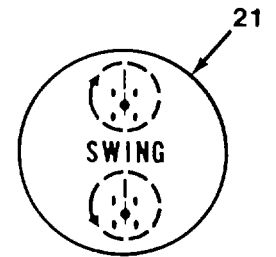

Figure 4-6. *Swing Lever*
21. **Swing Lever** controls rotation of upperstructure: push to swing right; pull to swing left. When the upperstructure is 5 degrees off front center, rear axle pivot cylinders are locked into position to maintain stability for crane work (Figure 4-6).